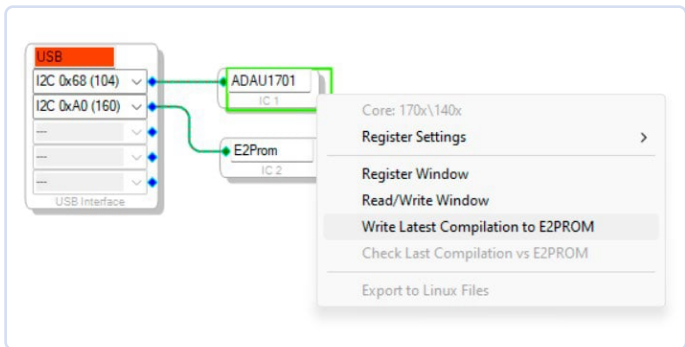

Figure 7: A right-click on the ADAU1701 block provides access to the function to create a HEX file for the EEPROM.
- Return to the *Config* tab of the *Hardware Configuration* window. Right-click on *IC1* (the ADAU170, not the EEPROM) and select *Write Latest Compilation to E2PROM* (see **Figure 7**) This will create a file *E2Prom.Hex* in the subfolder *my_project_IC2* (where *my_project* is the name of your project). Program this file into the EEPROM. How? We'll get to that below. But first, we introduce a faster method to upload HEX files to the DSP, for test and development purpose.